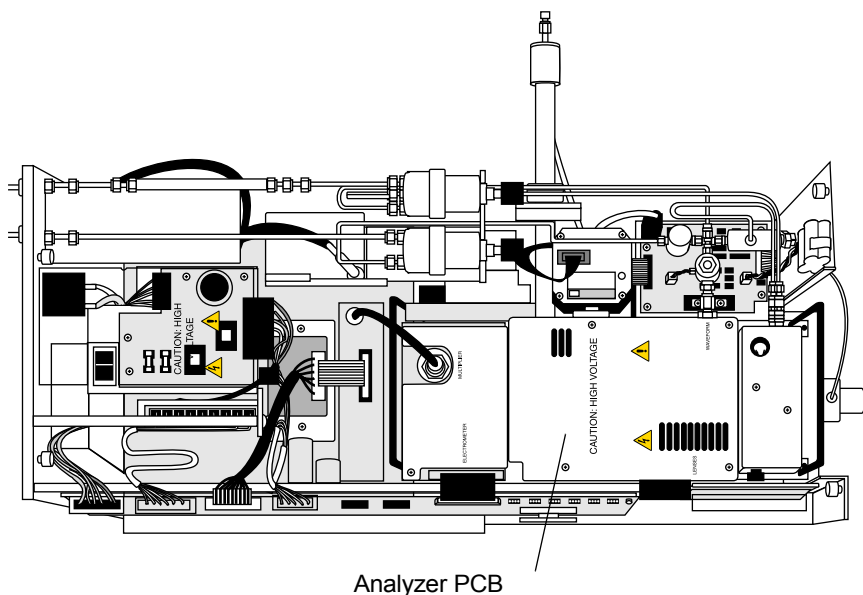

Figure 7-7. GCQ Plus with Top Cover Removed, Showing the Analyzer PCB
5. Unscrew and remove the six standoffs and two screws that hold the Analyzer PCB to the vacuum manifold top cover plate. Unseat and remove the PCB. See Figure 7-7 for the location of the Analyzer PCB.